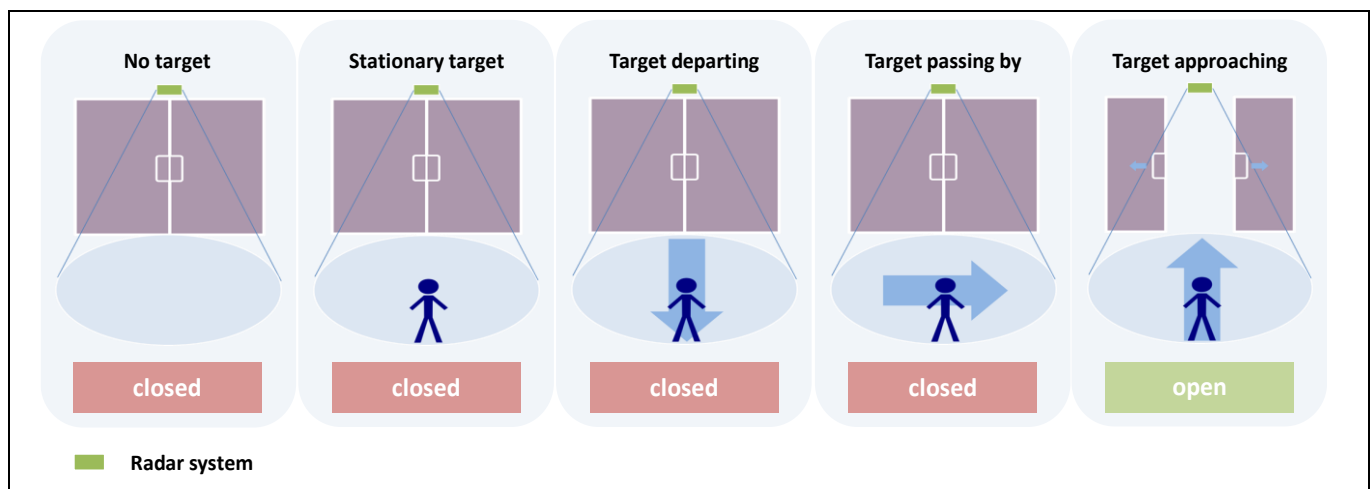

Figure 24 Smart door opener – use-case visualization
- smart door openers based on direction of movement (Figure 24)